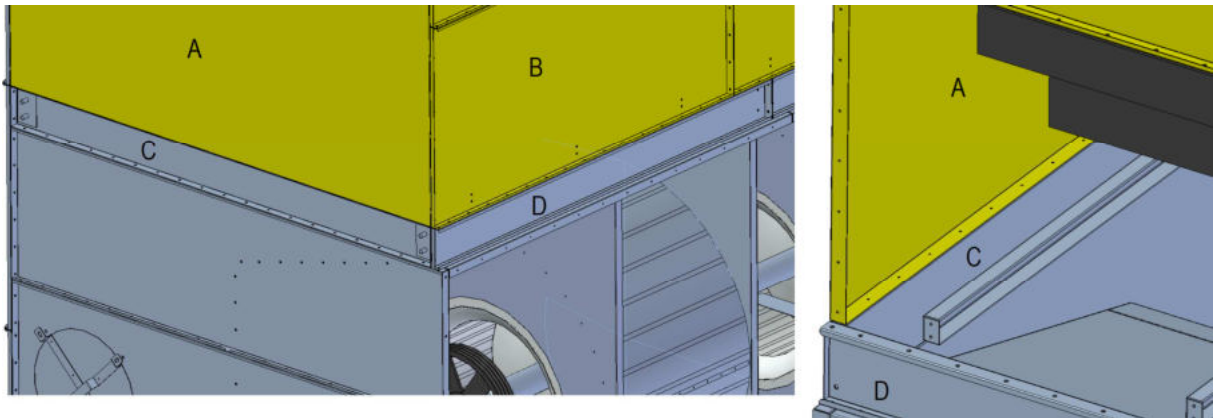

Fig. 10
Note: in units >2m wide, the short side of the exchange section, in yellow, (A) may have the support flange facing inwards. In this case, after having joined the sections on the long sides (B and D) with the bolts and nuts, it is necessary to use the self-tapping screws supplied, tightening them from the bottom panel (C) of the basin section, to the top panel (A) of the exchange section as in fig. 10. On the flange facing the inside of panel (A) of the exchange section, there are holes of small diameter prepared for the self-tapping screw.